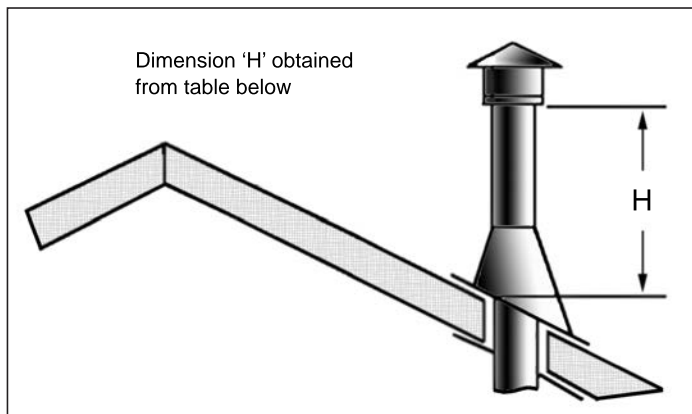

Figure 54: Height of Vertical Termination; Reference Table
- Step 8.** Continue to add pipe sections until the height of the vent cap meets the minimum code requirements. Refer to Figure 54 and Table 7. Note that for steep roof pitches, the vent height must be increased. In high wind conditions, nearby trees, adjoining roof lines, steep pitched roofs, and other similar factors can result in poor draft, or down drafting. In these cases, increasing the vent height may solve the problem.
Table 7: Minimum 'H' for Figure 54.